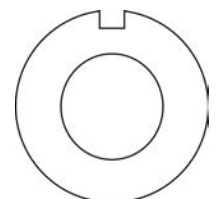

Figure 3-34 Air Rake Alignment Ring
3. Reinstall air rakes making sure that they are oriented as before with the notch on the alignment ring facing up, Figure 3-34.